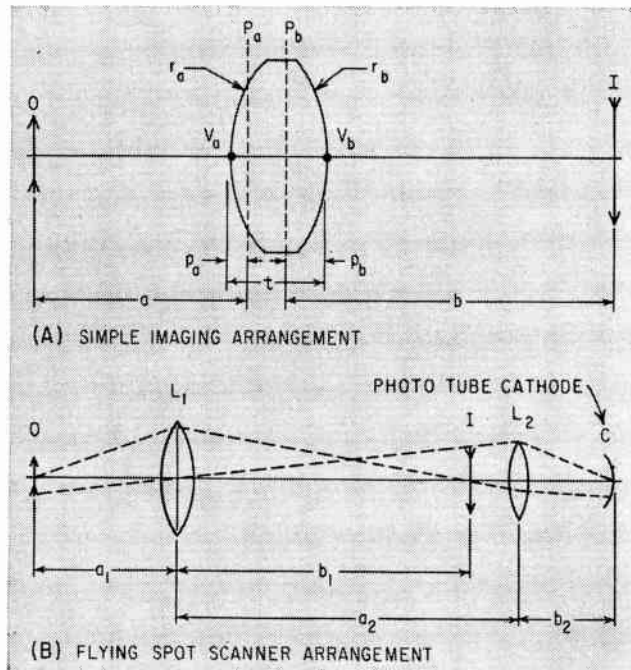

FIG. 1—Basic lens arrangements, identifying terms used in formulas
**LENS ARRANGEMENTS**—Two basic lens arrangements are given in Fig. 1. Figure 1A is fully covered by Tables I and II. Figure 1B illustrates a situation in which all light from the image must be collected onto the cathode of a phototube. Another lens is required following the image plane, to form an image of the first lens on the phototube cathode at an appropriate magnification. A ray emanating from the axial point of each object is shown to illustrate the interleaved imaging systems.